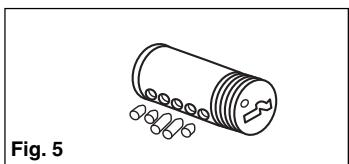

Fig. 5
1. Remove key from cylinder plug. Rotate cylinder until pins drop out (Fig. 5).